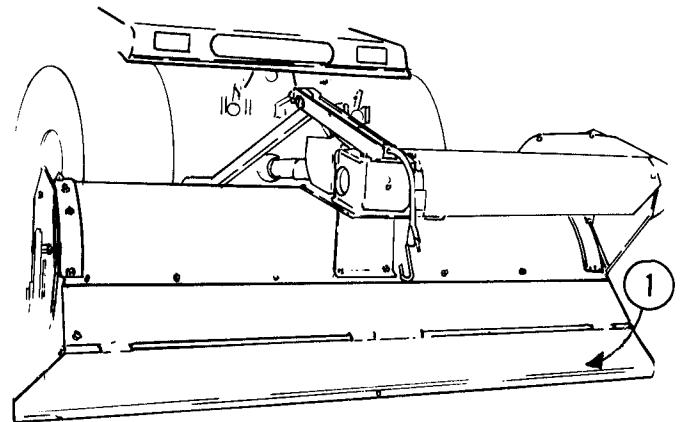
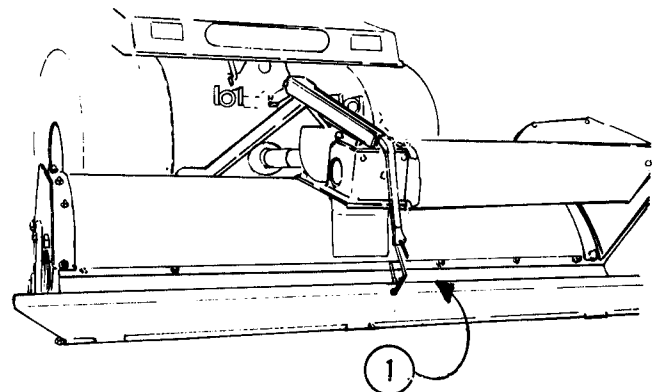

Fig. 10 — Level Blade
Fig. 11 — Level Blade
7. Lower level blade when tilling to produce a finer and smoother seed bed, Figure 10. For coarse bed or when cultivating, move level blade all the way up, Figure 11.